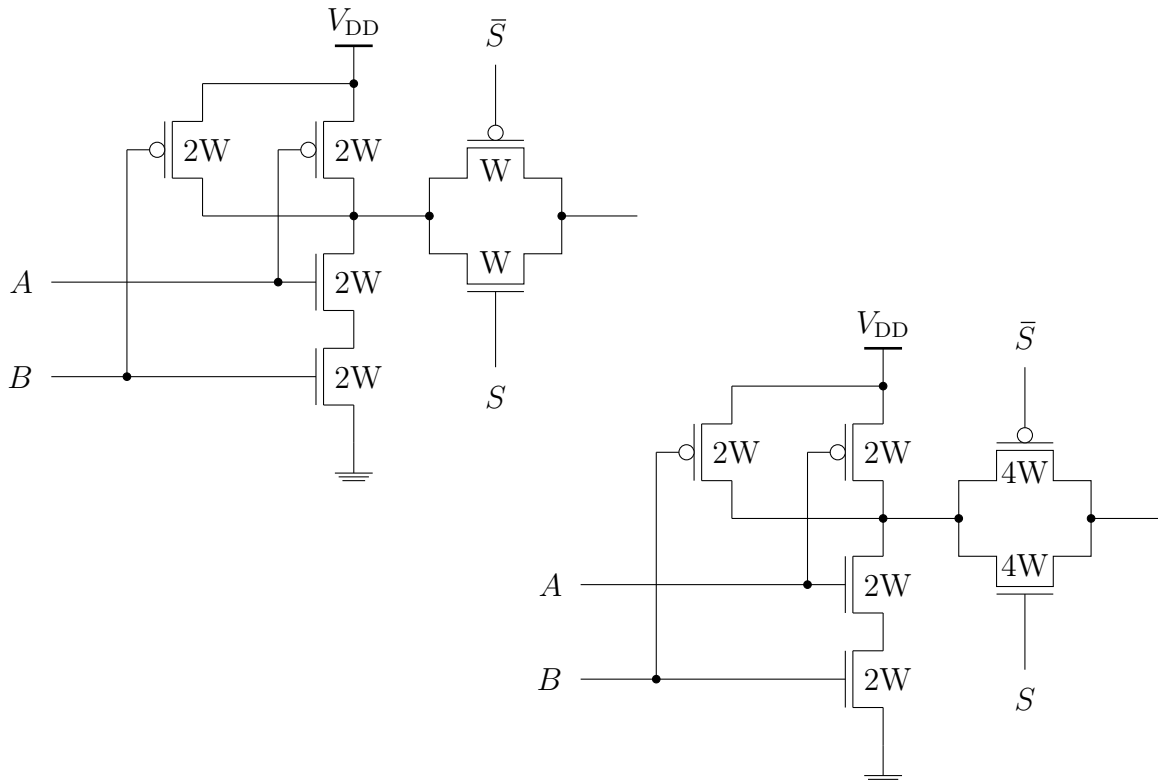

Abbildung 11.1: Logical Effort of a CMOS TG driven by a NAND
Calculate the Logical Effort (LE) of A and S in Fig. 11.1.